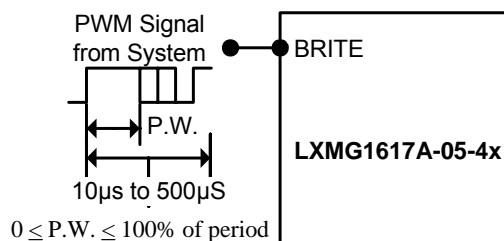

Figure 1A – PWM Brightness Control
- The brightness control may be a voltage output DAC or other voltage source, a digital pot or 500K manual pot. The inverter contains an internal 215K pull-up to 3V to bias the pot, if desired; add a resistor to set the lower threshold voltage above the absolute minimum dim level capability. A PWM logic level signal (figure 1A) may be used up to 5V; however the inverter will reach maximum current at less than 100% duty cycle. This can be calculated as approximately 2V divided by the logic high voltage level; with 3.3V logic level this corresponds to about 60% duty cycle for maximum lamp current.